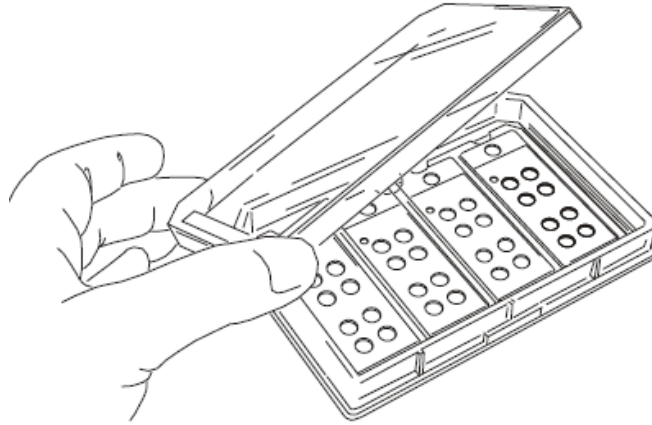

Figure 1
1. Aseptically remove a CultureWell™ plate from the package as shown in Figure 1. Remove the plate cover to expose MultiWell chambers. Reclose the package by folding the bag end closed and securing it with a small piece of lab tape.